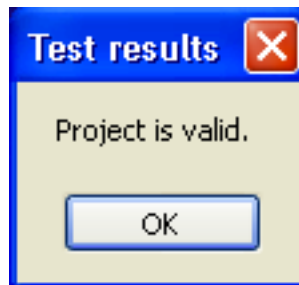

Figure 8: Project should return "valid" before transferring it to the EXTER T60
1. Before compiling it’s good to check that your code will actually compile. To do so, in the file menu go to “Project” → “Test” Your program should return “valid” as in Figure 8.